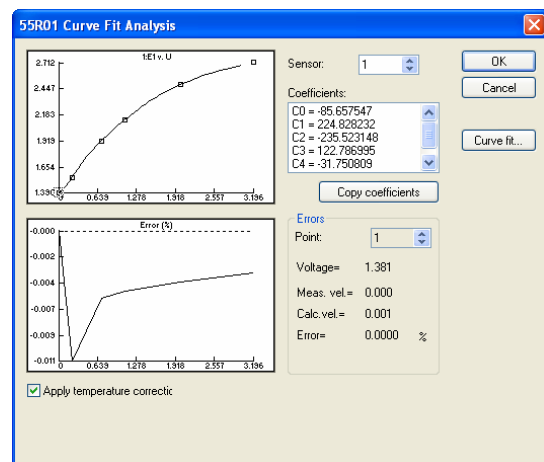

Figure 11: Curve fit analysis window
5. Select “Fit”. The probe “Curve Fit Analysis” window opens as shown in Figure 11. The linearization coefficients and errors are shown. To fit a higher polynomial curve click the “Curve fit”